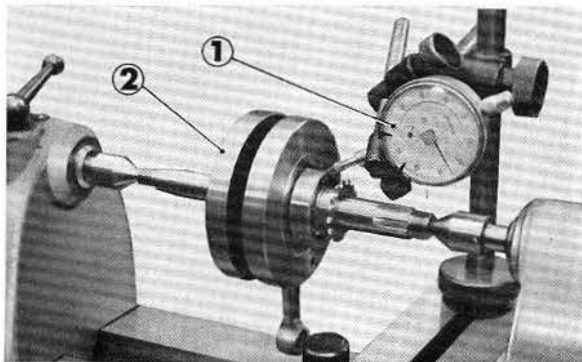

Fig. 2-46 ① Dial gauge ② Crankshaft
2. Support the crankshaft on centers and inspect the bearing for wear in both the parallel and normal direction of crankshaft. (Fig. 2-46)